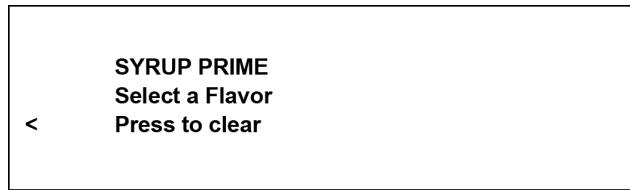

Figure-35
23. Press the Calibrate symbol to enter the Syrup Prime mode. (See Figure-35.)